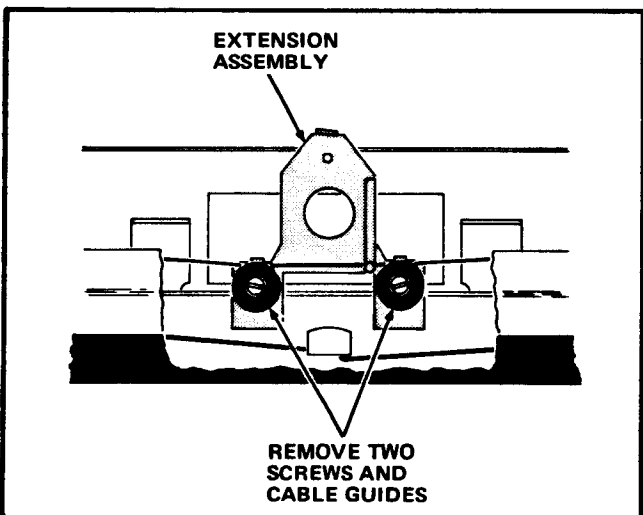

FIGURE 8
15. Rotate the Extension Assembly and remove the 2 Screws and Cable Guides. See Figure 8. Remove the Extension Assembly from the Channel.